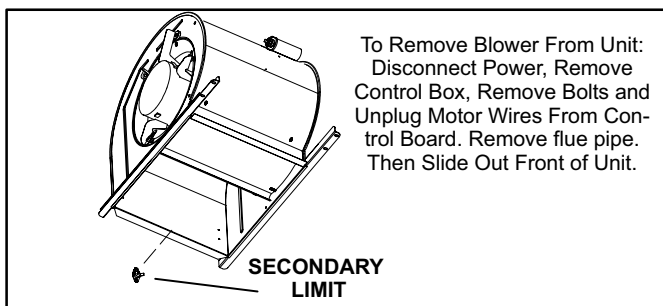

FIGURE 10
The secondary limit (S21) on G50DF(X) units is located in the blower compartment in the back side of the blower housing. See figure 10. When excess heat is sensed in the blower compartment, the limit will open. If the limit is open, the furnace control energizes the supply air blower and closes the gas valve. The limit automatically resets when unit temperature returns to normal. G50DF -1 through -6 units use 3/4" air stream limits factory set to open at 150°F. G50DF-7 and later units use 1/2" air stream limits factory set to open at 135°.